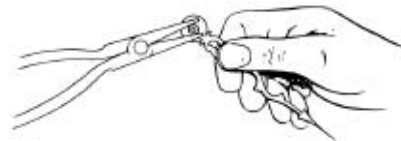

Figure 21
## **MINUTE HAND ADJUSTMENT** (Figure 21)
5. Turn the minute hand over and look at the back. You will see a bushing or collar which can be grasped with the pliers. With the hand being held in this position you will turn the minute hand very slightly. Remember to make small adjustments. (1 minute is a very short distance on the dial). See Fig.21 for help in making this adjustment.